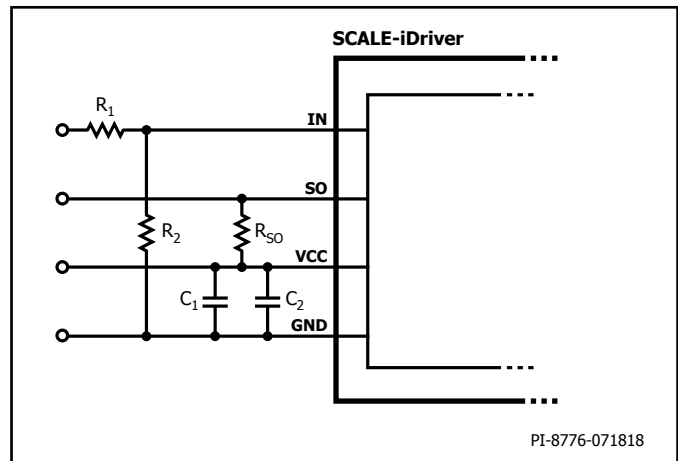
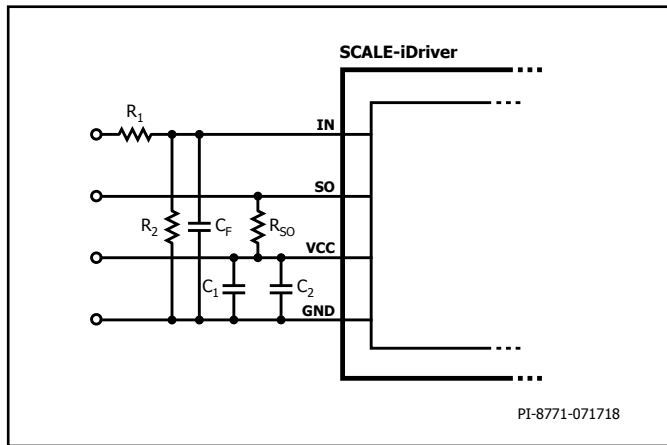

Figure 6. Recommended Circuitry for Increased IN Logic Levels. For $R_1 = 3.3 \text{ k}\Omega$ and $R_2 = 1.2 \text{ k}\Omega$ the IN Logic Level is 15 V.
Figure 7. Primary-Side of Example Circuitry.
If the physical distance between the controller and the SCALE-iDriver is large or if a different logic level is required, the resistive divider in Figure 6 is recommended. This solution adjusts the logic level as necessary and will also improve driver's noise immunity.
For the input the circuitry of Figure 6 is recommended, when using 15 V input logic. R_1 and R_2 represent a voltage divider to get a 5 V signal at the IN pin. If additional filtering is required a capacitor C_F can be placed in parallel to R_2 as depicted in Figure 7. The time constant τ can be calculated by Equation (1). In case direct 5 V logic is used at the IN pin, R_2 can be omitted and R_1 can be reduced to 100 Ω .